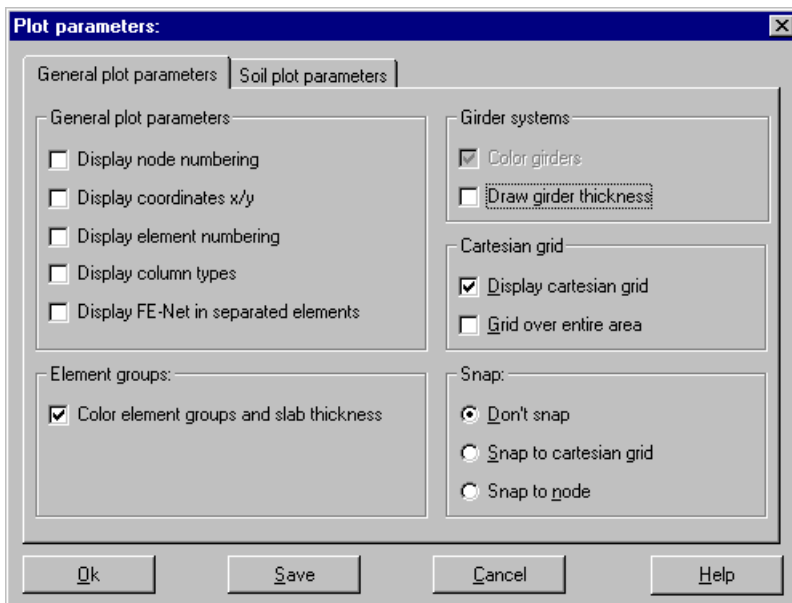

Figure 7-19 "Plot parameters" dialog box
- Choose "Plot parameters" command from "Options" menu. The "Plot parameters" dialog box in Figure 7-19 appears